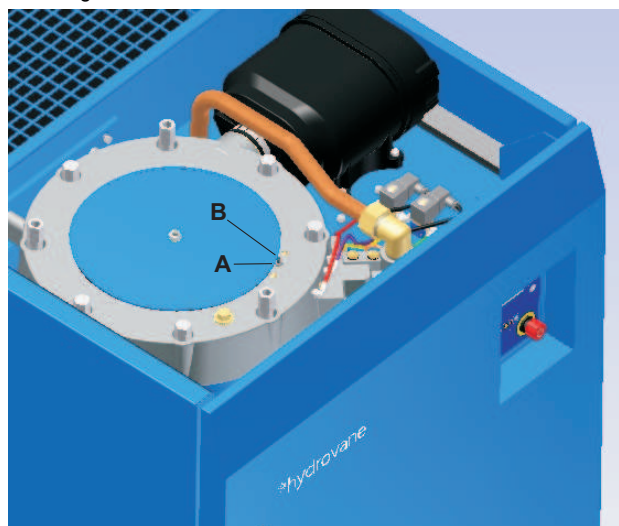

Fig. 8.2 - Servo Valve
Both parameters PL load and PU unload pressure must be set on the controller together with manual servo adjustment, Para 8.6, Servo Valve (Fig. 8.2) to ensure that the compressor functions correctly.
8.6 Servo Valve (Fig. 8.2)